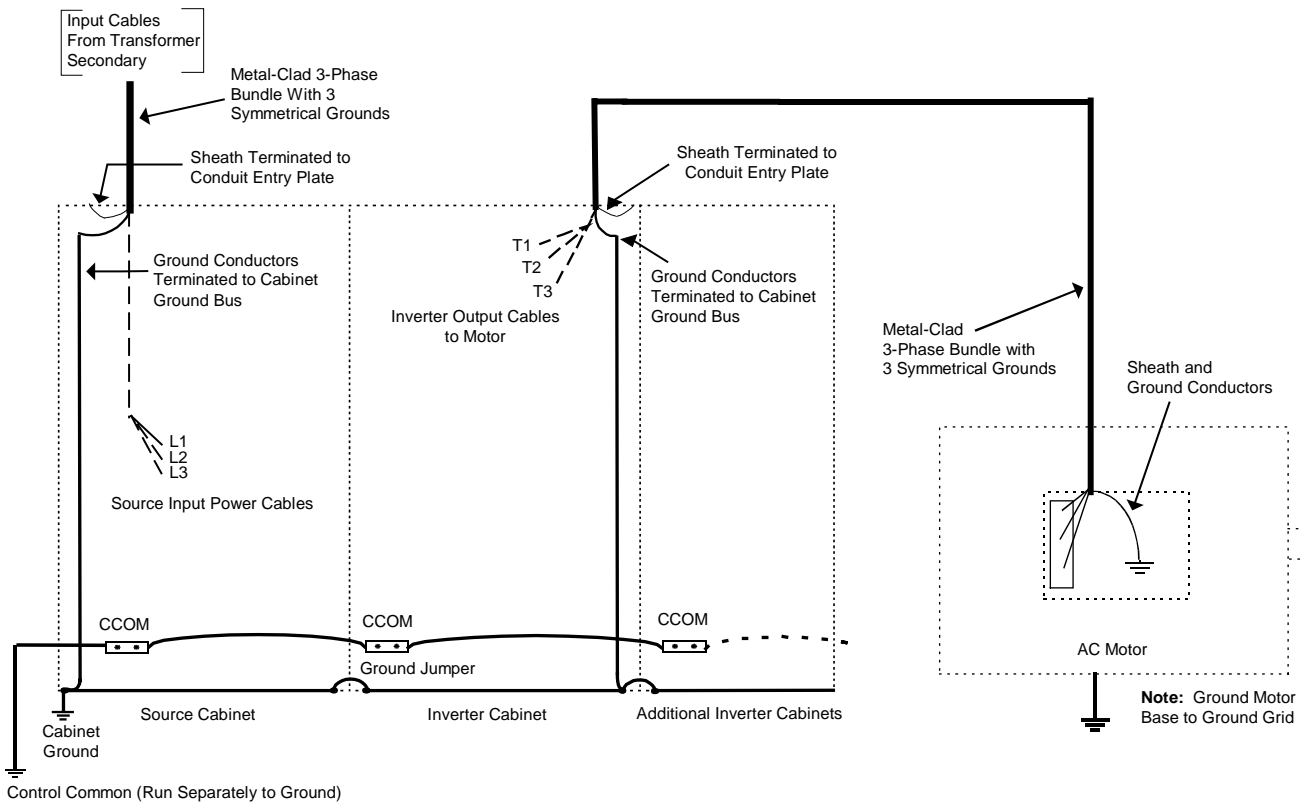

Figure 3-4. Recommended Grounding for the Drive Lineup
Figure 3-4 illustrates proper grounding of the drive.
- Terminate the sheath to the motor junction box and to the inverter cabinet (see Figure 3-4) using approved connectors.